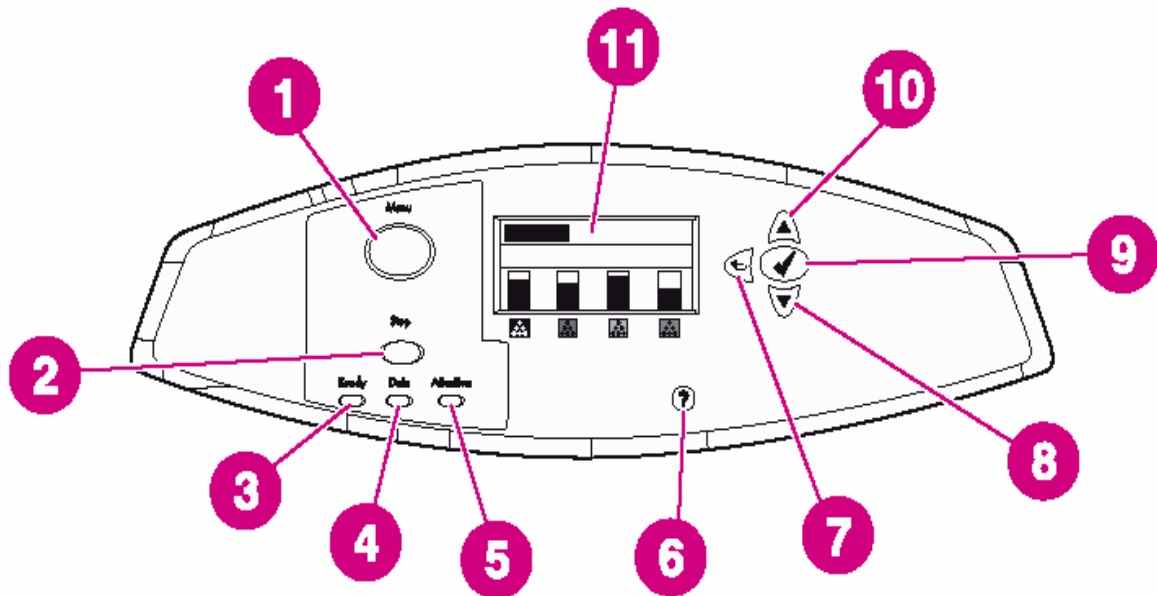

Figure 79 : Graphical printer HP4650 N control panel
The HP4650 N control panel includes (see Figure 79) :
- A2 (Indicators) aid is provided by the LED located on the control panel of the printer and by the information messages displayed on the control panel display (Figure 79).
- ☞ Refer to Figure 79.